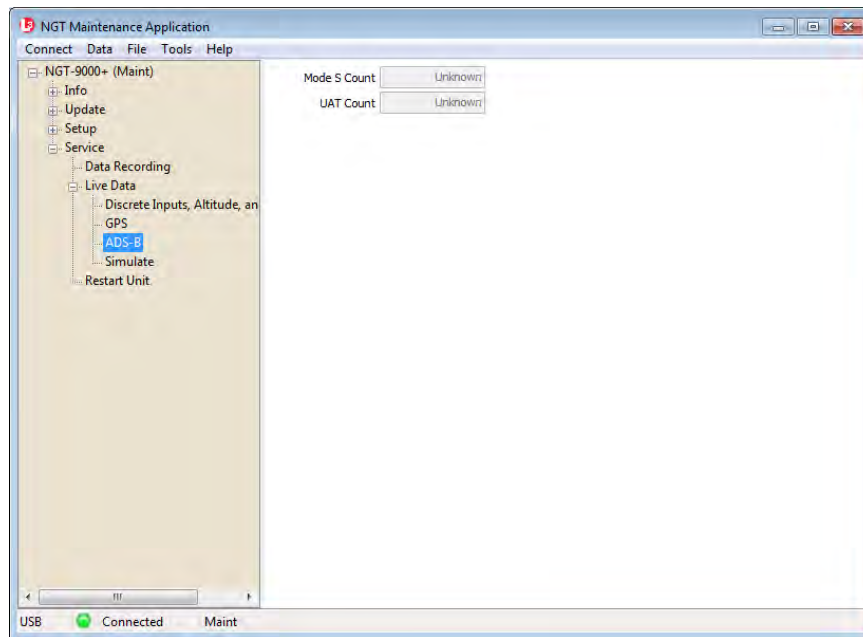

Figure 3-17: Lynx MAT – Live Data - GPS
1. From the Lynx MAT select Service→Live Data→ADS-B. An example of this page is shown in Figure 3-17.